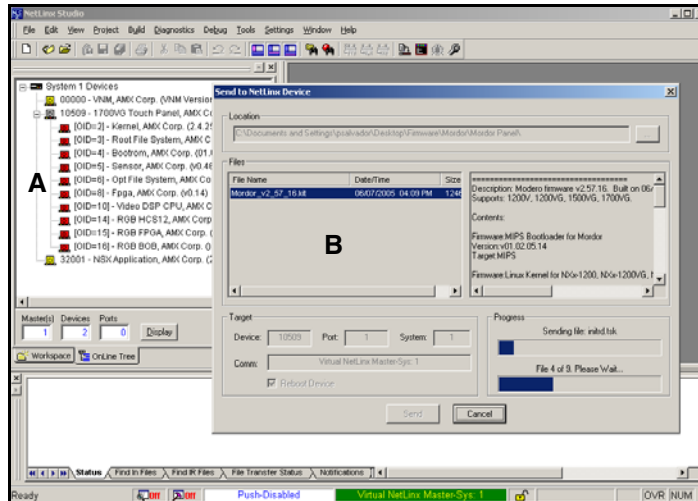

FIG. 95 Using USB for a Virtual Master transfer
7. From within Studio, select **Tools > Firmware Transfers > Send to NetLinx Device** from the Main menu to open the Send to NetLinx Device dialog (**B** in FIG. 95). Verify the panel's System and Device number values match those values listed within the System folder in the **OnLine Tree** tab of the Workspace window (**A** in FIG. 95).
11. Click **Send** to begin the transfer. The file transfer progress is indicated on the bottom-right of the dialog (**B** in FIG. 95).